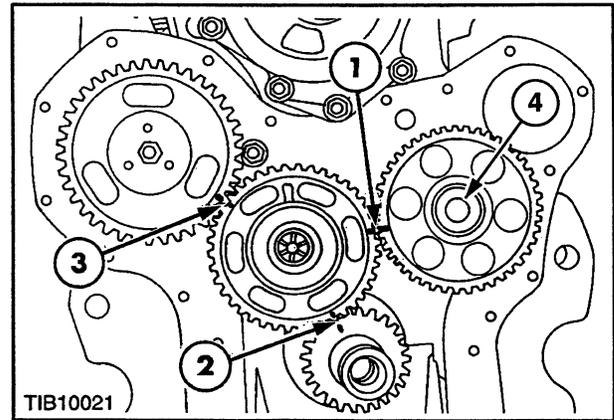

Figure 1-39
3. With piston No. 1 at top dead center, assemble the pretimed fuel injection pump with a new O ring, aligning the mark on the pump flange to the 0 degree timing mark on the front cover. Torque pump retaining bolts to 22 N·m (18 ft. lbs.). Install the pump gear over the pump shaft. Align timing marks to the idler gear, 3, in Figure 1-39 and torque to pump shaft 79 N·m (58 ft. lbs.). Holding the idler gear, check the backlash between the pump and idler gear with a feeler gauge or dial indicator.